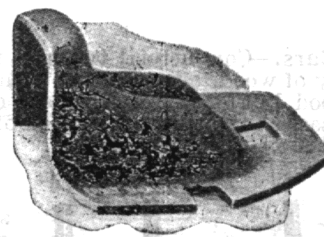

FIG. 17.—PRESSED STEEL RAIL BRACE.
24. Rail braces.—The outer rails of curves are frequently braced with braces of a kind illustrated in fig. 17. An angle bar nailed to the tie and butting against the web of the rail furnishes a very good brace. (For elevation of outer rails of curves, see pars. 70, 71.) On standard-gage roads the rule seems to be about one rail brace per degree of curvature. On very sharp curves it is a good precaution to have the inner line of track doubled by the use of a guard rail. This will fre-